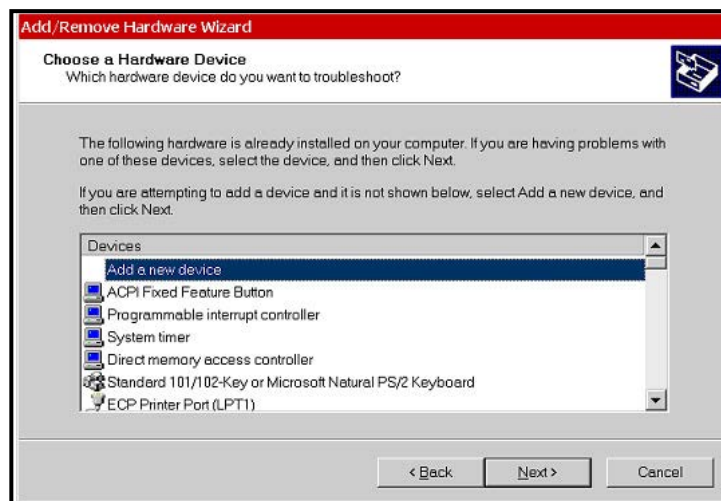

Figure 49: Choose a Hardware Device Screen
5. When the search finishes, you will see the dialog screen as in *Figure 49*. Choose "Add a new device," and click Next.